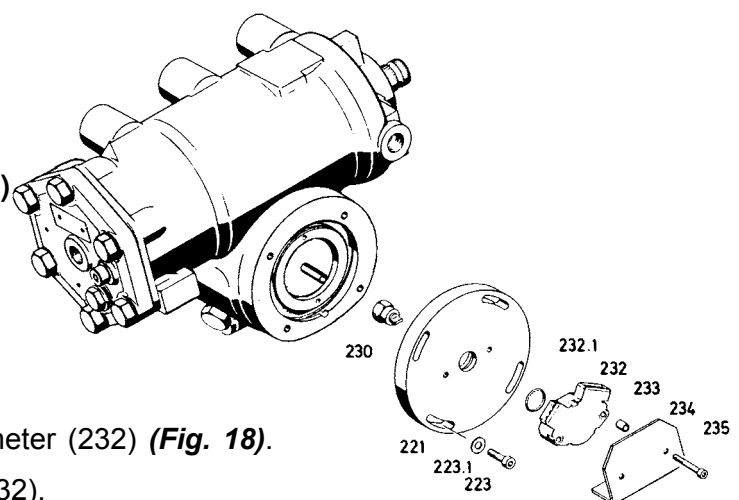

Fig. 18
Clean the area surrounding the potentiometer (232) (**Fig. 18**).